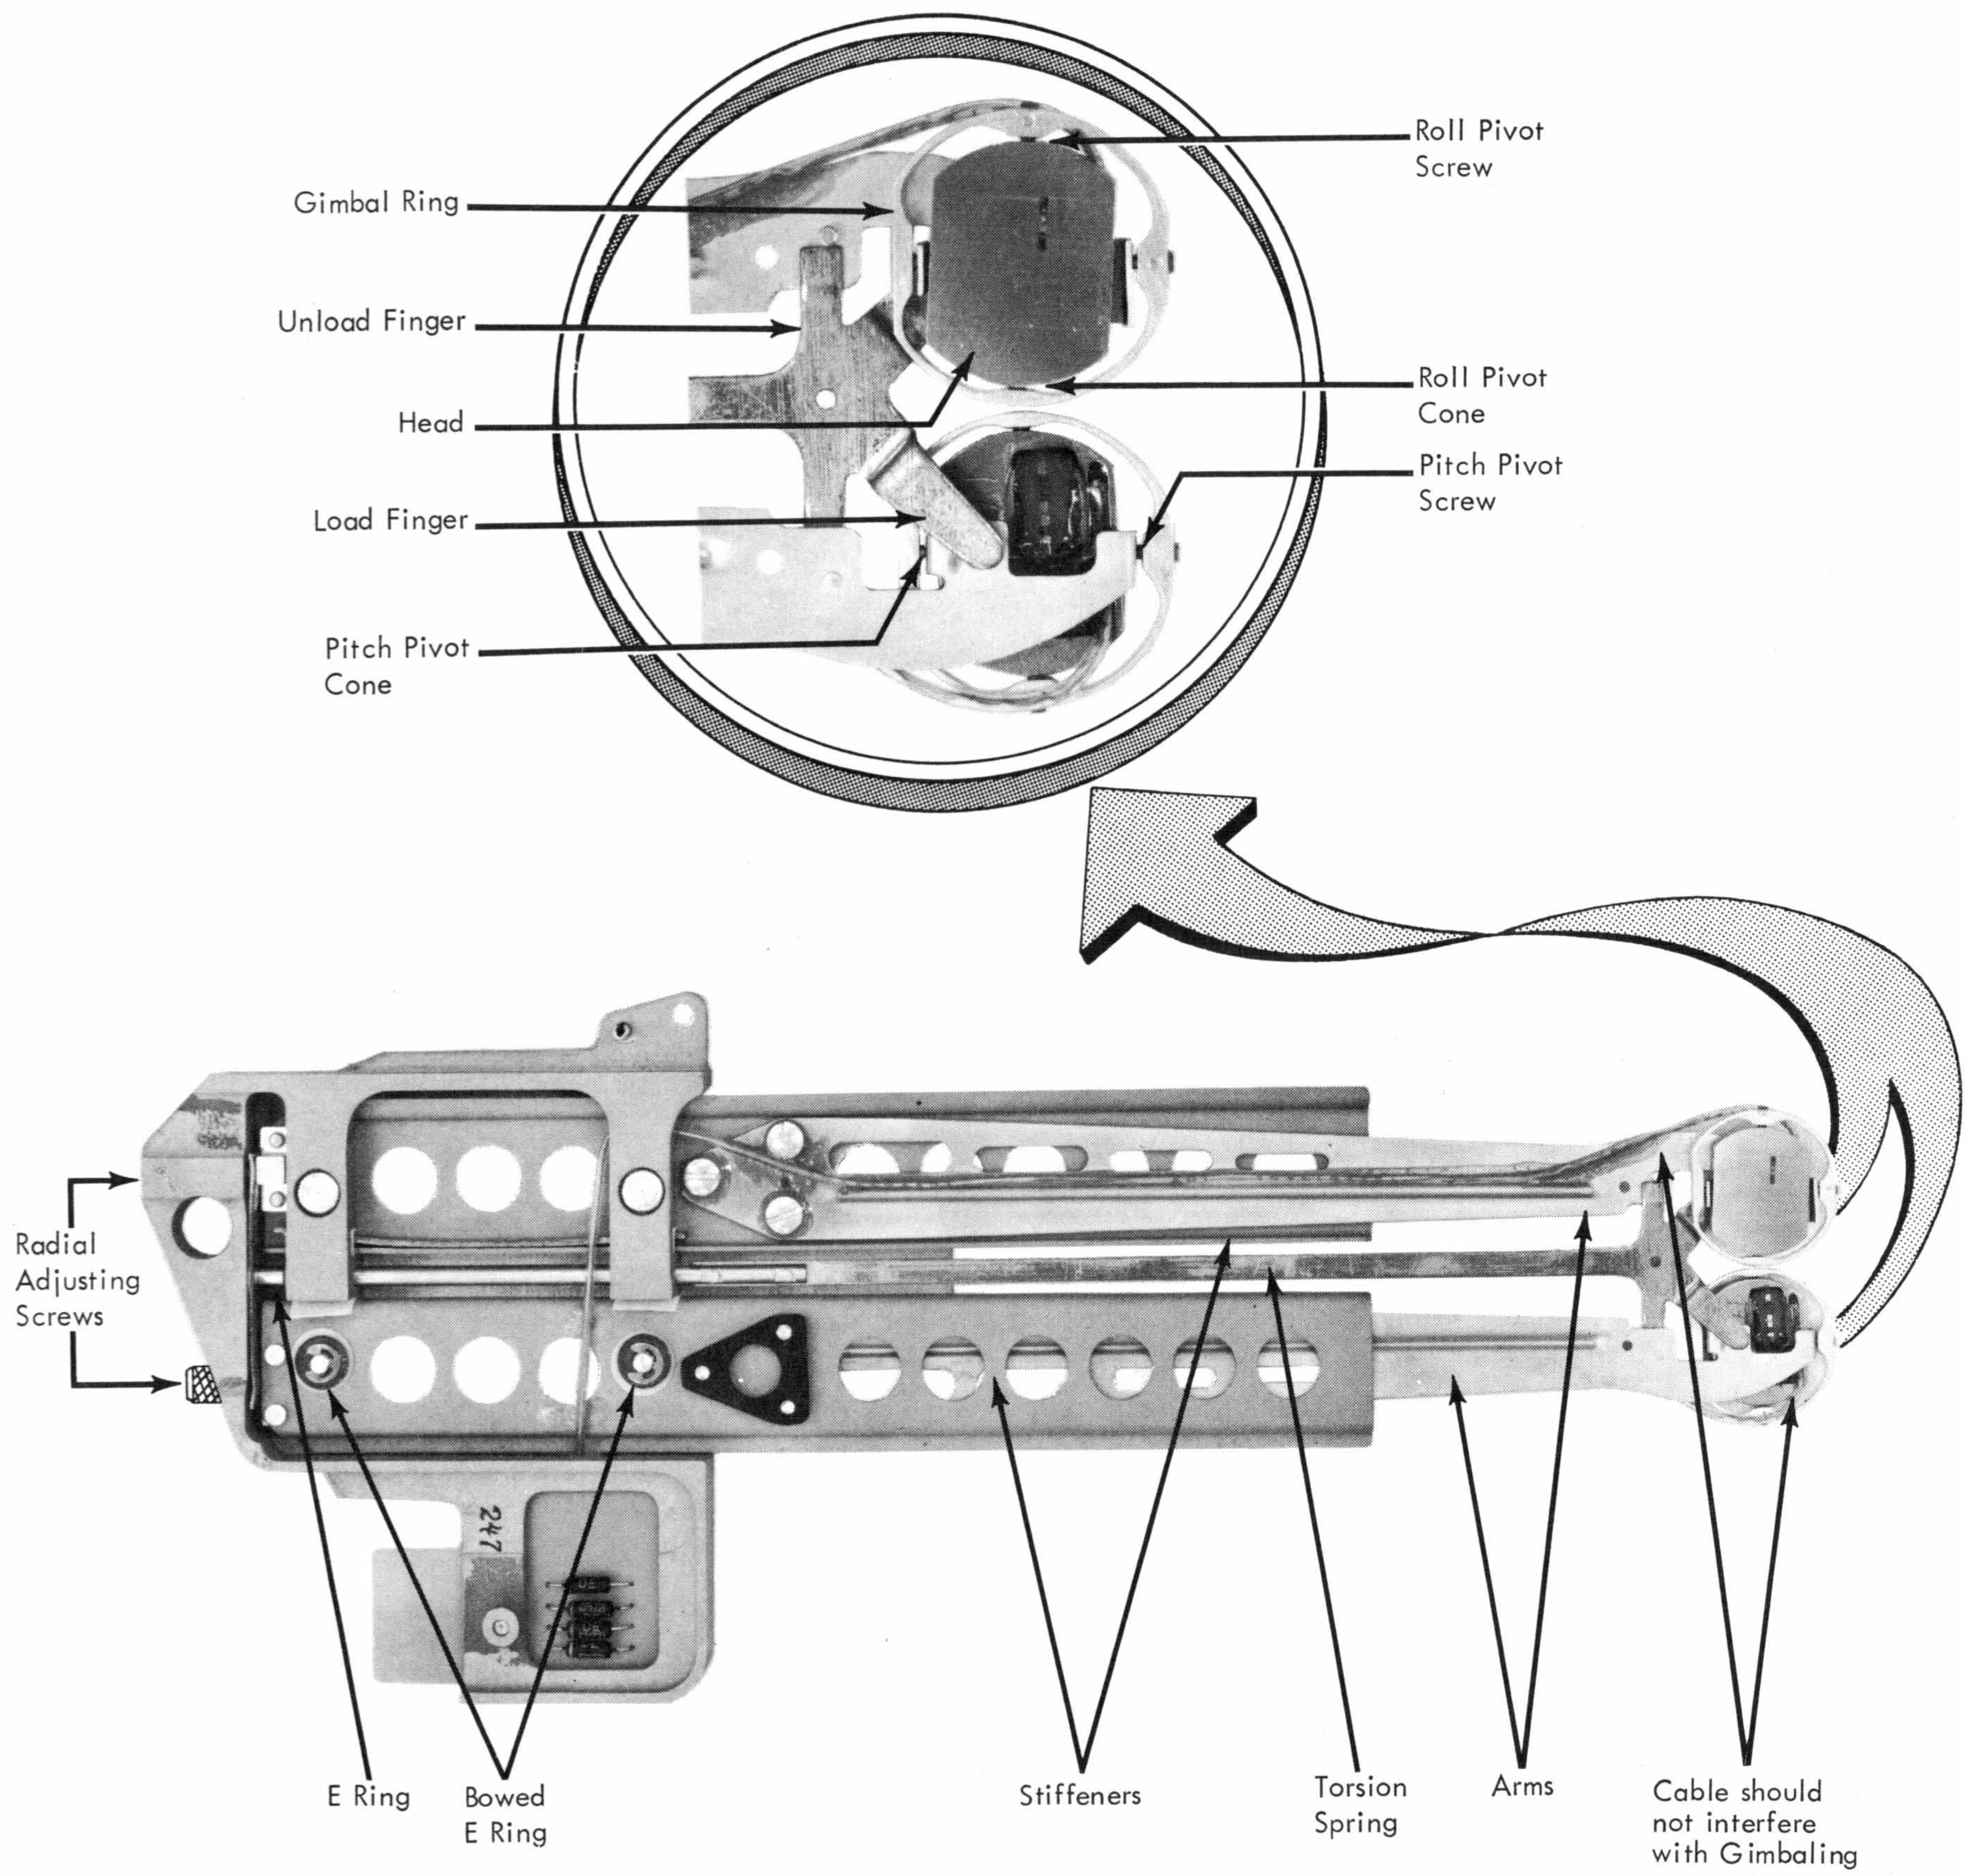

Figure 2-25. Drawer Assembly
The magnetic elements in the drawer assembly are precisely located during manufacturing. In rare instances, however, adjustment may be necessary. Each head and its arm can be adjusted in a radial direction only, with respect to the disk array. The adjustment is accomplished by rotating the screw which is held captive in the drawer frame (Figure 2-25). Access to these screws is provided through the rear of the receiver.
1. Check proper engagement of torsion-spring fingers with arms (Figure 2-25).